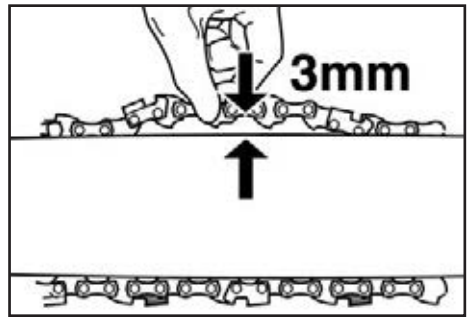

FIG.4
8.2 TENSIONING THE SAW CHAIN - FIG. 4